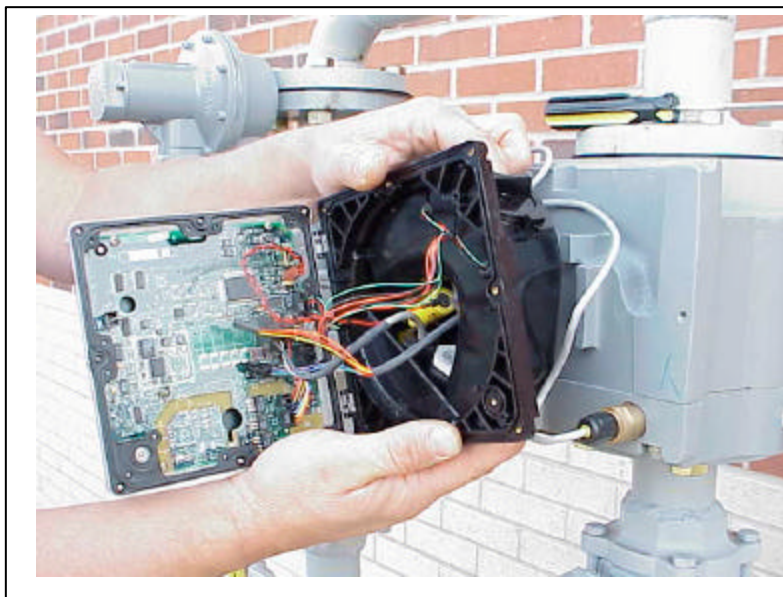

Figure 7.9 Remove Index
9. Lift off the index head, carefully pushing wires through opening in bottom of the head. **See Figure 7.9**